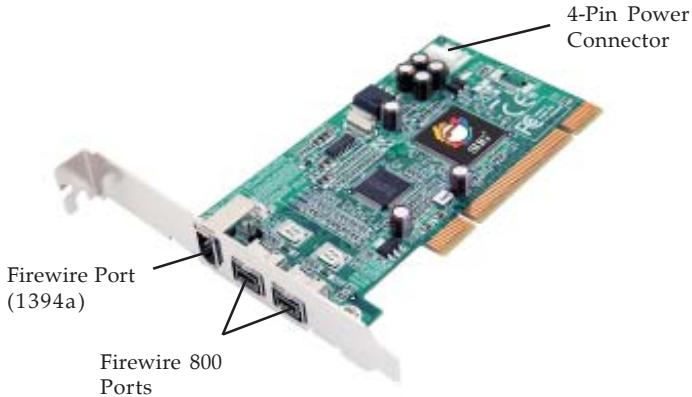

Figure 1. Board Layout
4. Connect an available 4-pin power connector from the system power supply to the 4-pin power connector on the *FireWire 800 32-bit PCI* board (See **Figure 1** on page 3). This connection is recommended for consistent power output from the FireWire port.